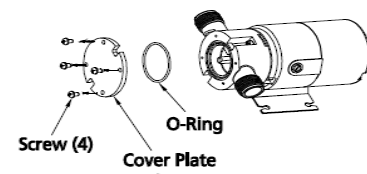

Figure 7 – Reassemble Pump
- Install the O-Ring and the cover plate (See Figure 7). If the cover plate is worn, reverse the plate so the unworn side faces the impeller.